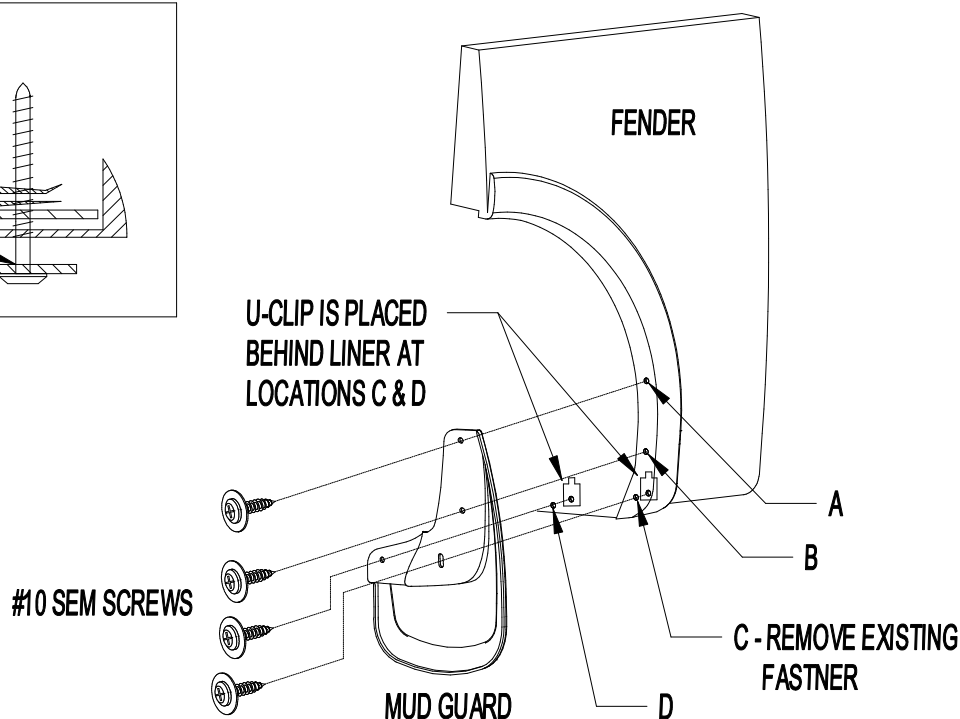

Figure 1
2. Remove existing fastener from location C (Figure 1).
3. Attach mud guard to front fender at location C by installing a #10 SEM screw thru mud guard, fender and into a U-clip. **NOTE:** the U-clip is placed on the backside of liner and acts as a nut. **DO NOT** clip over liner or fender. Check fit and parallel. Adjust accordingly before tightening (Figure 1 and 2).
5. Using mud guard as a template, mark, drill 1/8 hole and install #10 SEM screw at location D, thru mud guard, fender liner and into a u-clip on the backside of liner. The u-clip is used as a nut, **DO NOT** clip over liner or sheet metal (Figures 1 and 2).